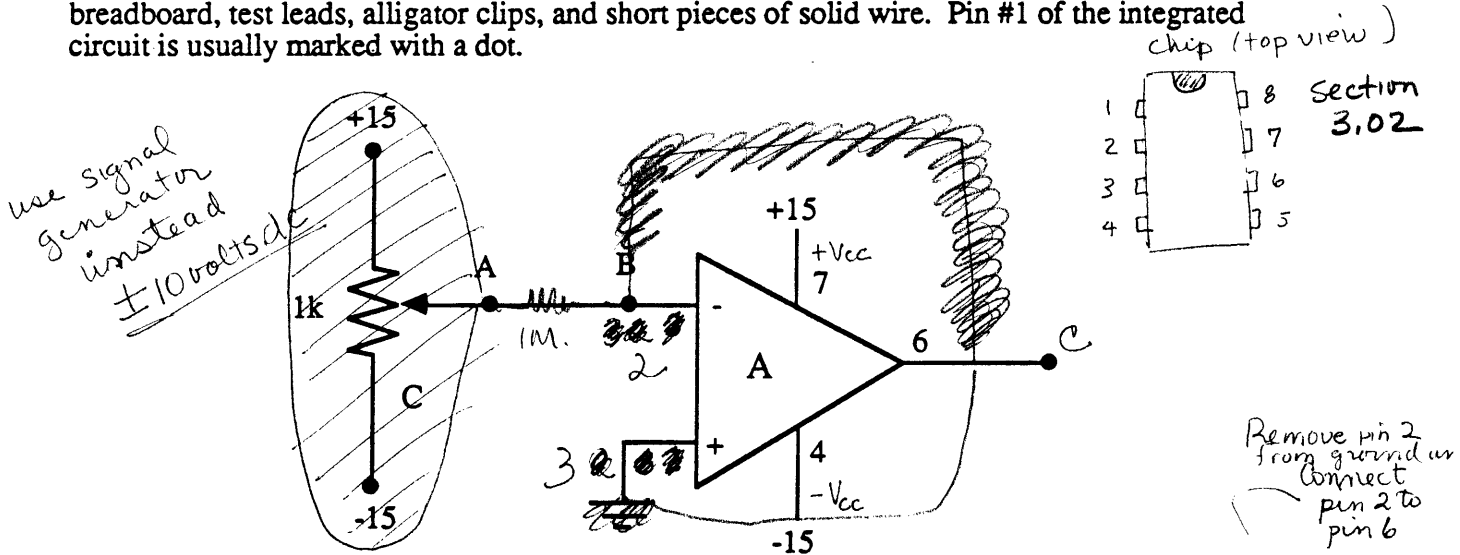

Figure 1 - Basic open loop high-gain op amp
- (1) Build the simple circuit shown in Figure 1 using an LM741. Attempt to measure the dc input voltage at point A and the dc output voltage at point C with your DMM. Record any results you get in Table 6.1. *Adjust your dc input to result in a dc output at*
- (2) Replace the short between A and B with a 1M resistor. Measure the dc voltage drop across this resistor with your DMM. Record your results in Table 6.2. *of 5 volts*